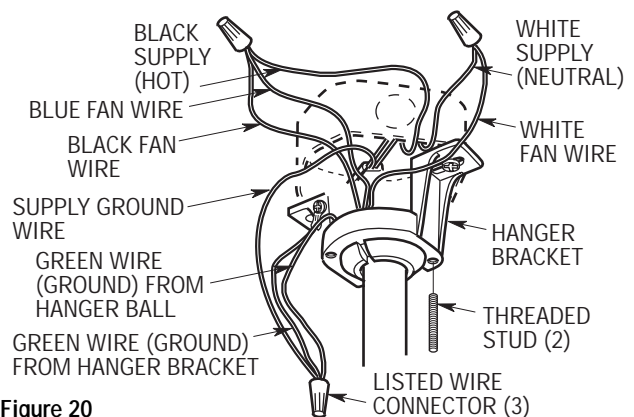

Figure 20
1. Connect the green grounding lead from the hanger ball and the green grounding lead from the hanger bracket to the grounding conductor of supply (this may be a bare wire or wire with green colored insulation). Securely connect wires with wire connectors supplied. (Figure 20.)
2. Securely connect the fan motor white wire to the supply white (neutral) wire using wire connector supplied (Figure 20). Securely connect the fan motor black wire and blue wire to the supply black (hot) wire using wire connector supplied (Figure 20). After connections have been made, separate the white and green leads from the black and blue leads. Carefully turn the leads upward and push the green and white leads into one side of the outlet box. Then push the black and blue leads into the other side of the outlet box.
- 3. Screw the two 1-1/4" threaded studs (supplied) into the tapped holes in the hanger bracket (Figure 20).
- 4. Lift the ceiling cover up to the threaded studs and turn until studs protrude through the holes in the ceiling cover (Figure 20).